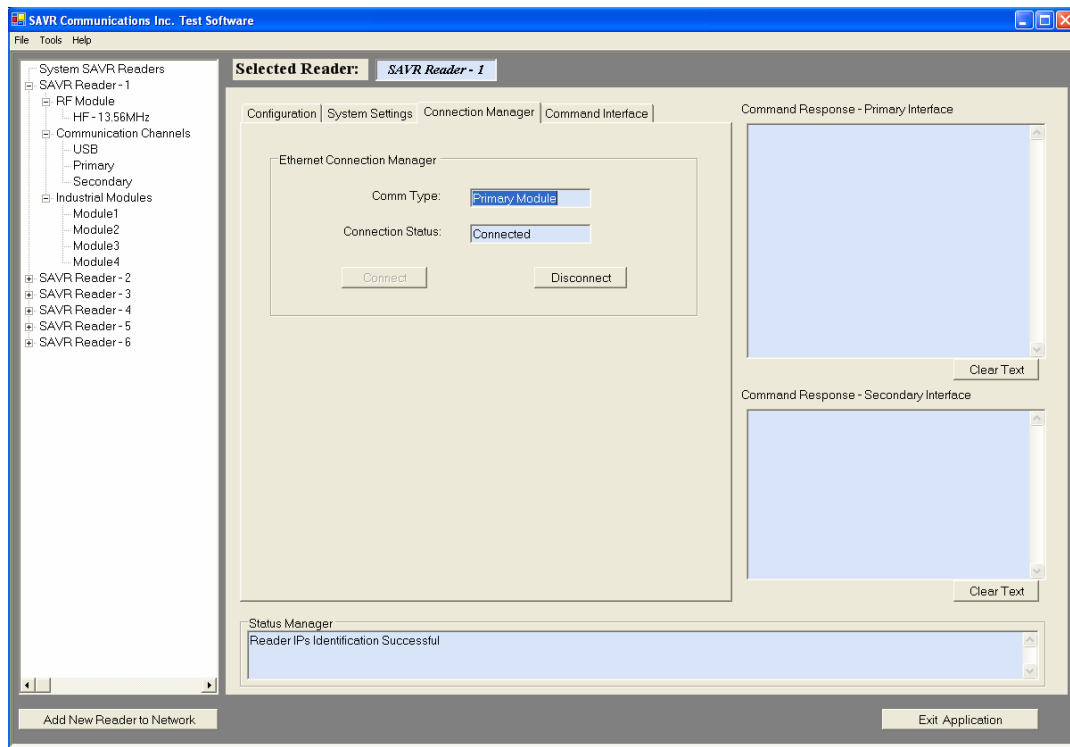

Figure 4
**“Connection Manager” Tab (Figure 4):** The Connection Manager Tab shows the connection status of the RFID reader. Press the “Connect” Command button to connect to the RFID reader and “Disconnect” command button to disconnect from the RFID reader.